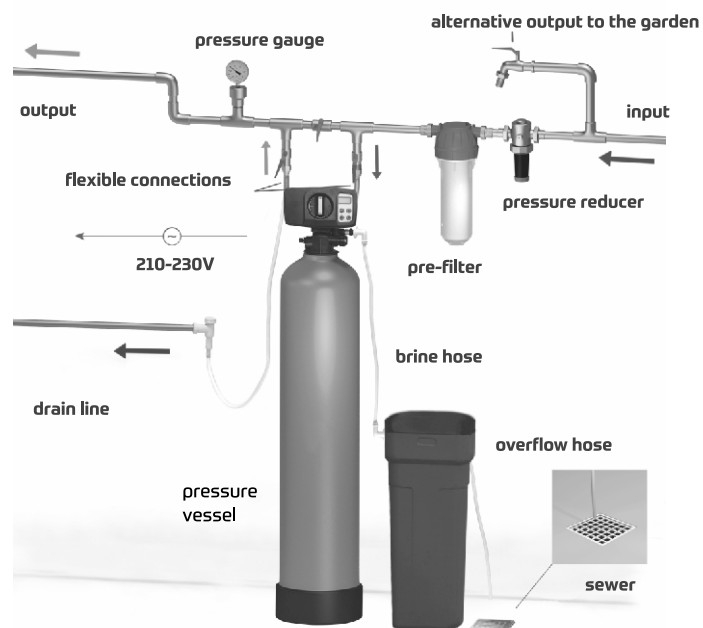

Fig. 4. Two-piece softener installation scheme
7. Connect overflow hose (fig. 4. Two-piece softener installation scheme) to the overflow elbow